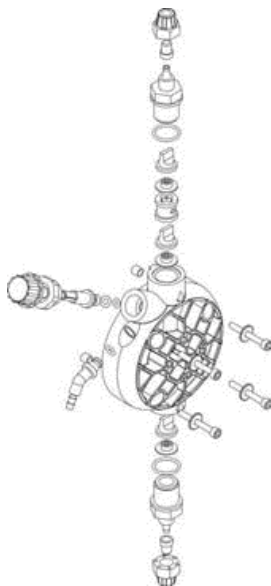

Fig. 11
- the additive concentration in the pipework; a reduction of this concentration could be caused by the wearing of the valves, in which case they need to be replaced (Fig. 11) or by the clogging of the filter which then has to be cleaned as in point 3 here below.